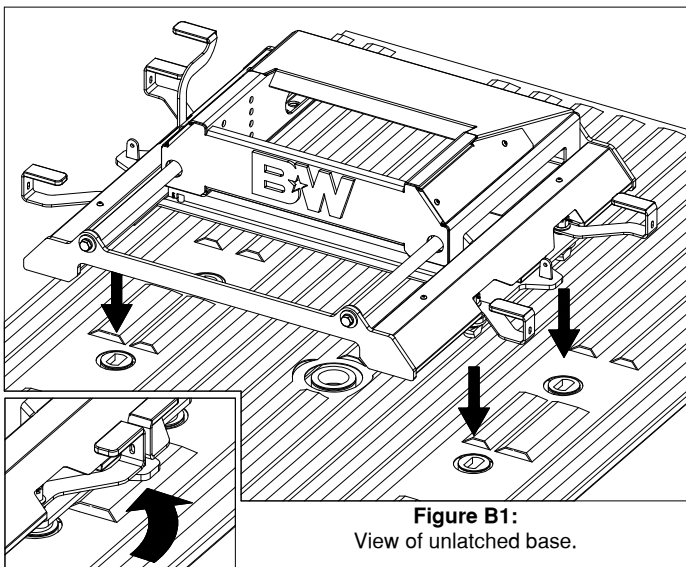

Figure B1:
1. **Place base.** Remove the latch pins from each side of the base and rotate the handles out, see Figure B1. Position the base over the attachment points. Carefully lower it until the latch cams pass through the floor and the base rests flat against the top of the attachment points.